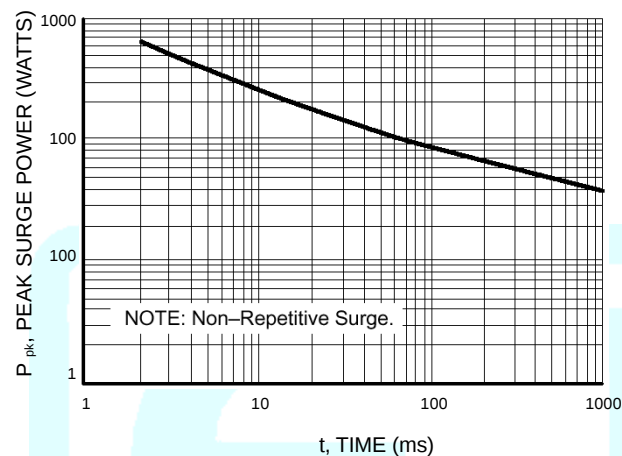
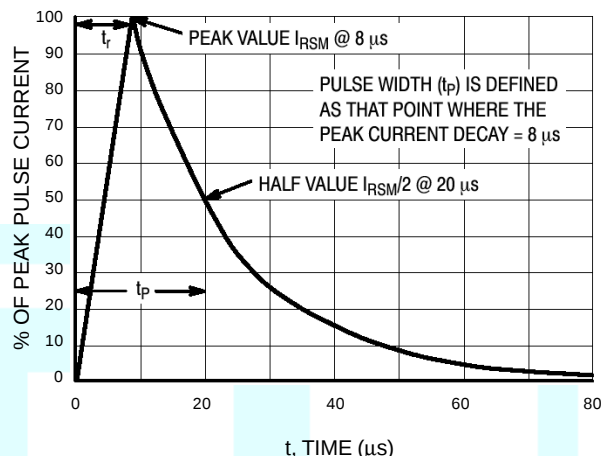

Figure 1. Pulse Width
Figure 2. 8  $\times$  20  $\mu$ s Pulse Waveform
1. Non-repetitive current per Figure 1. Derate per Figure 2.